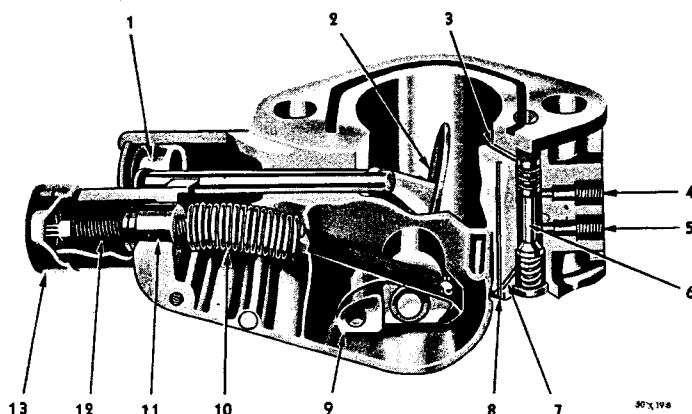

Figure 56 — King Seely (Handy) Governor (Sectional View)
ADJUSTING THE KING SEELEY (HANDY) GOVERNOR (Fig. 56)
To adjust governor, refer to Figure 56, and proceed as follows: For a **HIGHER** speed, turn adjusting cap (13) counter-clockwise or to the left; for **LOWER** speeds, turn adjusting cap clockwise or to the right. One turn of the adjusting screw will change the engine speed approximately 300 rpm.